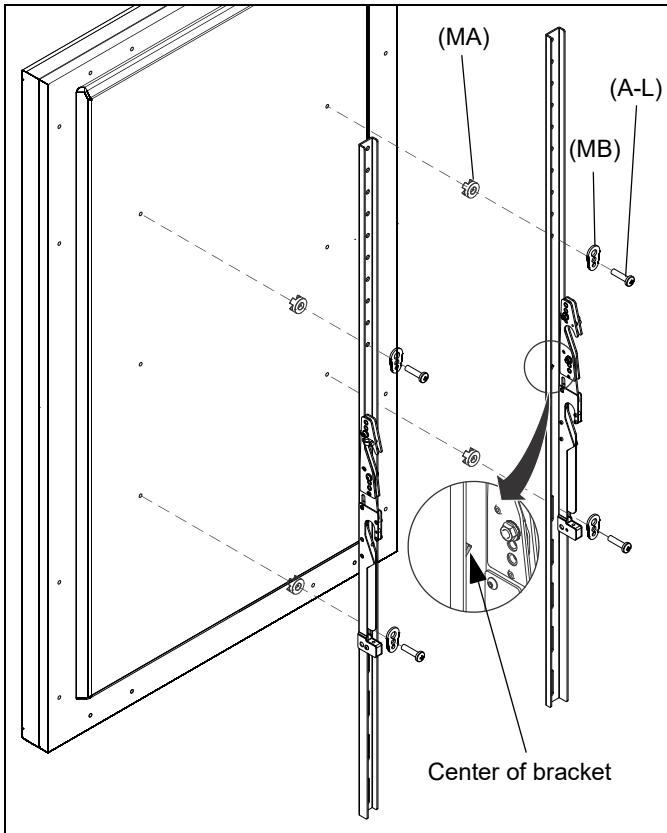

**Figure 4**
1. Lock rails into place using two 1/4-20 x 3/4" set screws (S) on mount upright (Y) and the 1/8" hex key (U). (See Figure 4)
**NOTE:** To easily install upper set screw against upper rail, place set screw (S) onto hex key (U), and feed up into hole while turning to tighten.